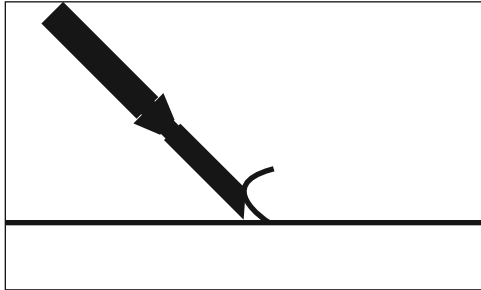

FIG. 4
- Normally, bevel on the blade is up for concrete (Figure 4); bevel down for wood (Figure 4.1).